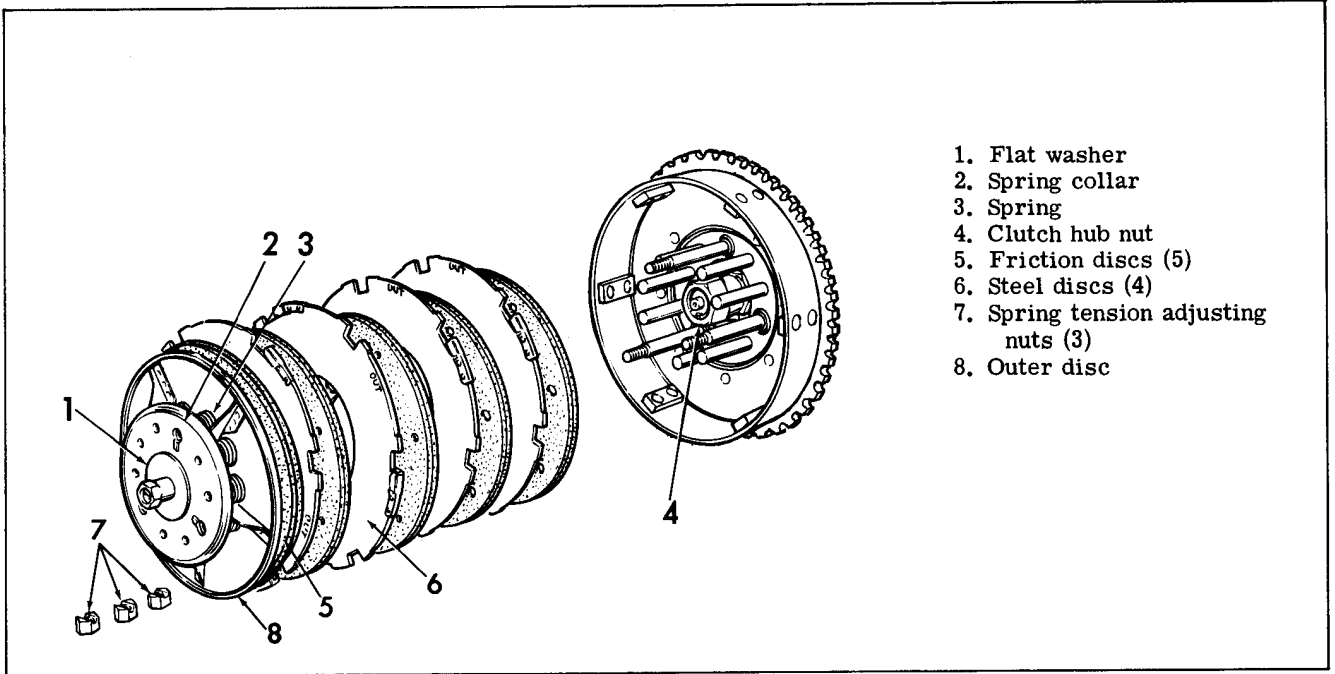

Figure 4-3. Removing Clutch
A new clutch is assembled so the distance from inner edge of spring collar (2, Figure 4-3) to the surface of the outer disc (8) is exactly 1-1/32 in. If springs are compressed so this distance is 7/8 in. or less, the clutch probably cannot be fully disengaged.
Remove push rod adjusting screw lock nut (1). Place a flat washer about 1/8 in. thick with 1-3/4 in. outside diameter and 3/8 in. hole over the adjusting screw (2). Replace lock nut and turn down until three spring tension adjusting nuts (3) are free. The nuts may then be removed and the spring collar-springs-outer disc assembly (4, 5 and 6) may be slipped off clutch hub dowels and studs as shown in Figure 4-3. Do not disassemble these parts unless